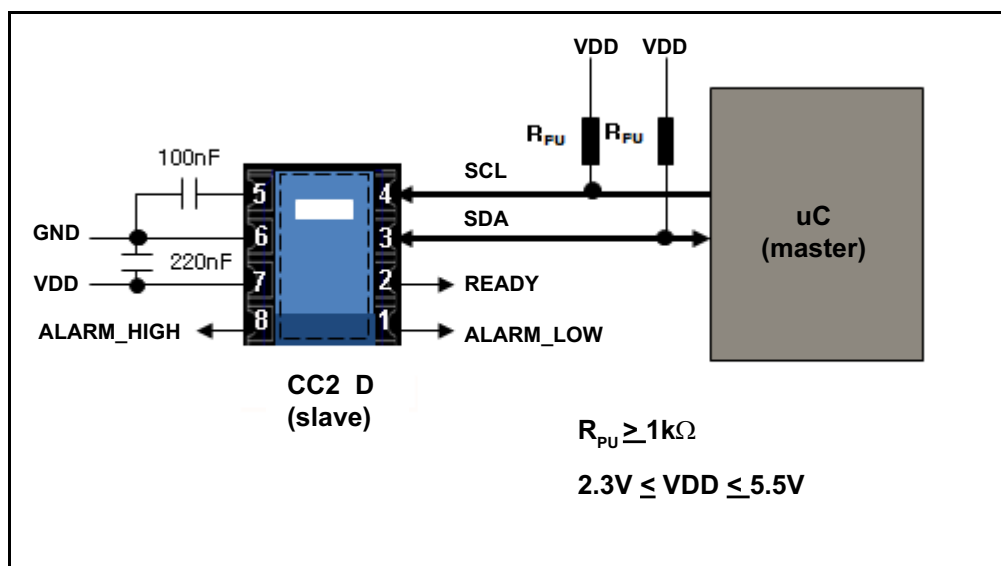

Figure 7: Typical Application Circuit (I2C)
**IMPORTANT:**  $V_{core}$  must not be connected to VDD, and it must always be connected to an external 100nF capacitor to ground. (see Figure 7, “Typical Application Circuit (I2C),” on page 11).